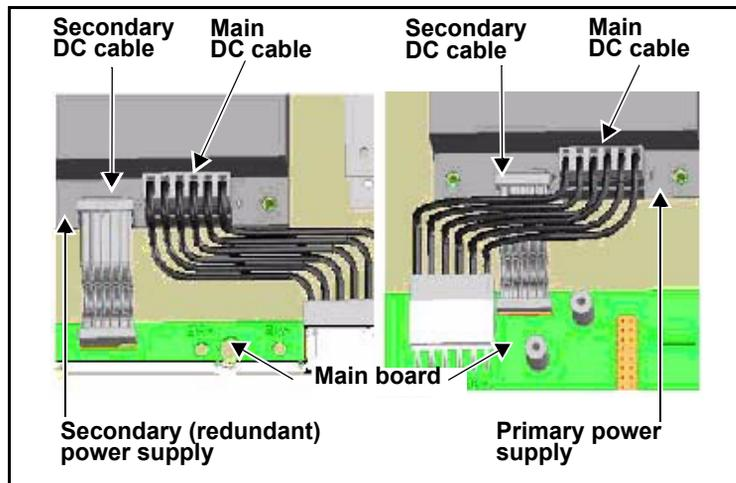

Figure C-30. Connecting DC and Ribbon Cables
3. Connect one end of the main DC power cable and the secondary DC ribbon cable to the main board, and the other end of each cable to the power supply. (See Figure C-30.)